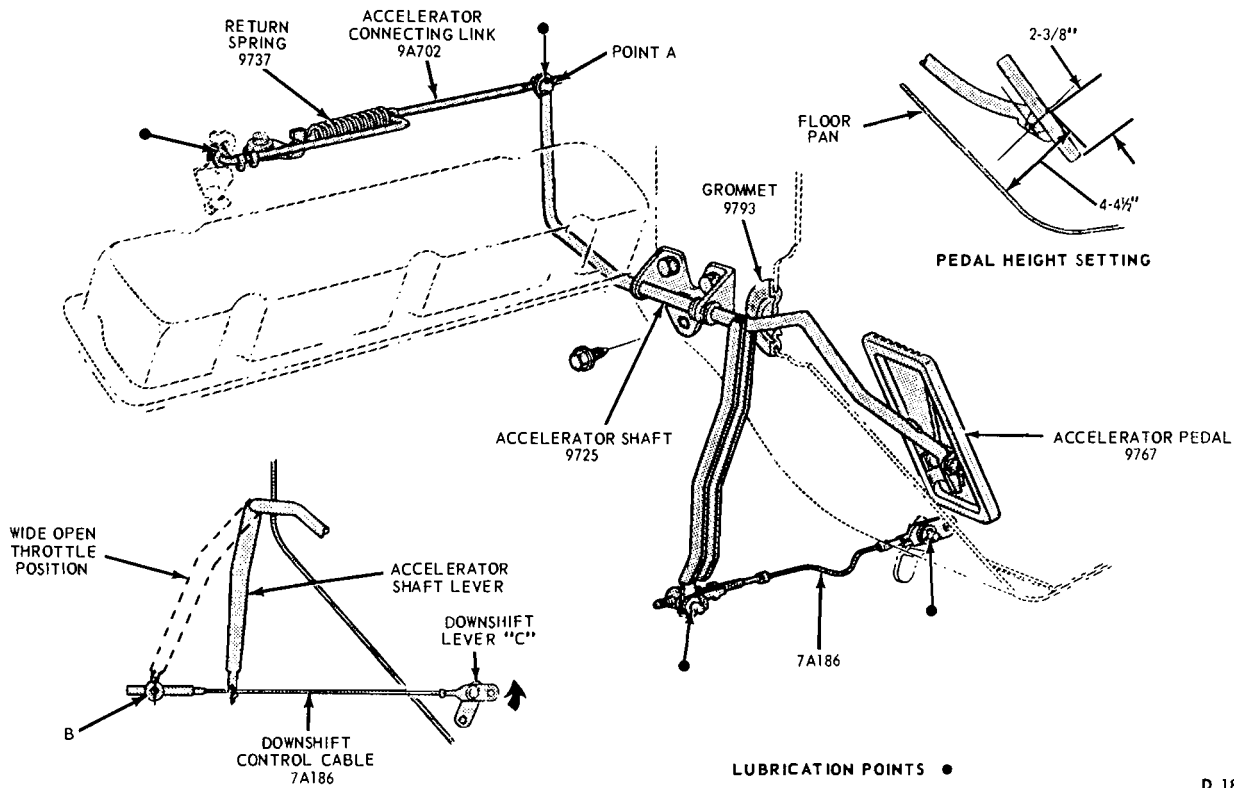

FIG. 15—Throttle Linkage—Mustang and Cougar with 390 CID Engine
1. With the engine off, check the accelerator pedal for a height of 4 1/2 inches measured from the top of the pedal at the pivot point (Fig. 15) to the floor pan. To obtain the correct pedal height, adjust the accelerator connecting link at point A.